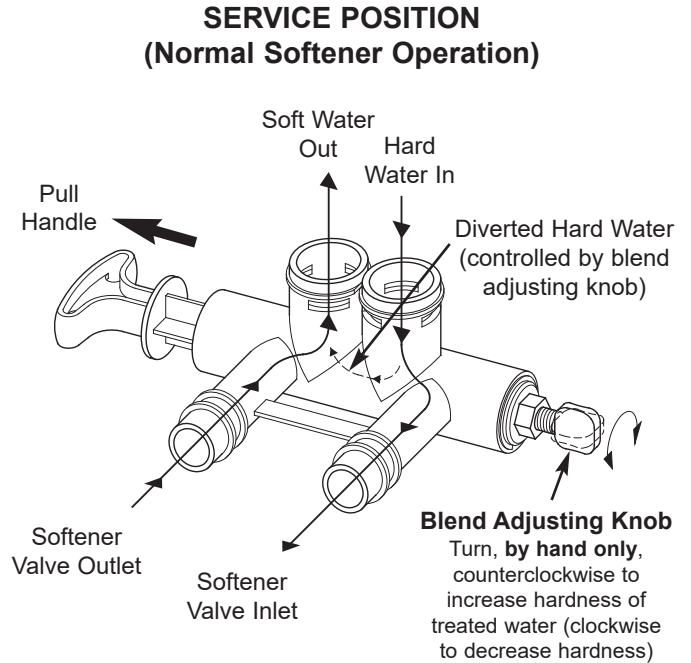

FIG. 52
The bypass blending valve works as a typical push-pull bypass valve, but has the added ability to finely adjust hardness of the treated water leaving the water softener. If slightly harder water is desired than is normally output by the water softener, this bypass blending valve can divert a small stream of hard water before it enters the water softener and blend it with the exiting softened water. The amount of water diverted is controlled by turning a blend adjusting knob on the end cap of the valve stem (See Figure 52).
1. When the bypass valve is in service position (normal softener operation), with handle pulled all the way out (See Figure 52), **increase hardness** of treated water by turning the blend adjusting knob **counterclockwise** up to 6 turns from the fully closed position. Before turning the knob, unlock it, if necessary, by turning the hex nut counterclockwise. While adjusting the knob, hold the bypass valve handle to prevent the stem from rotating.